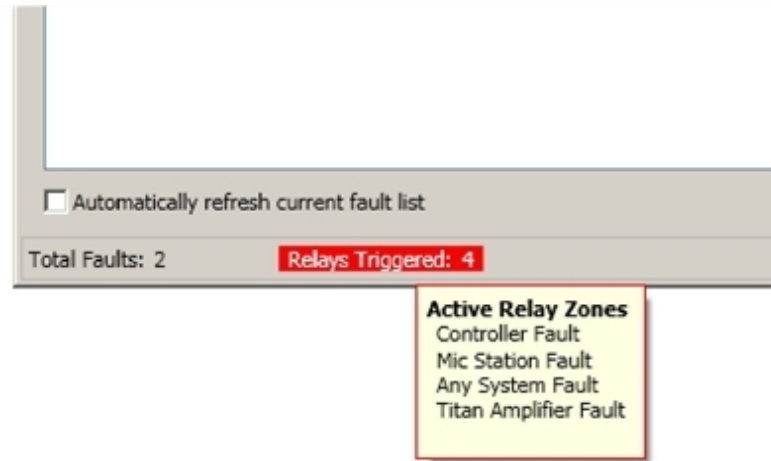

Figure 16-4: Relays That Are Currently Tripped Due To Fault Conditions
If System Supervision was installed to trigger relays on faults then the Viewer will also show the number of relays that have been triggered due to fault conditions in the system. Hovering the mouse over the **Relays Triggered** label will show the relays that are currently tripped, as shown in Figure 16-4.
2. Enter a meaningful description that is to be displayed in the status bar of the **Current Faults** window (see Figure 16-4 above) when the relay is tripped due to a fault condition.